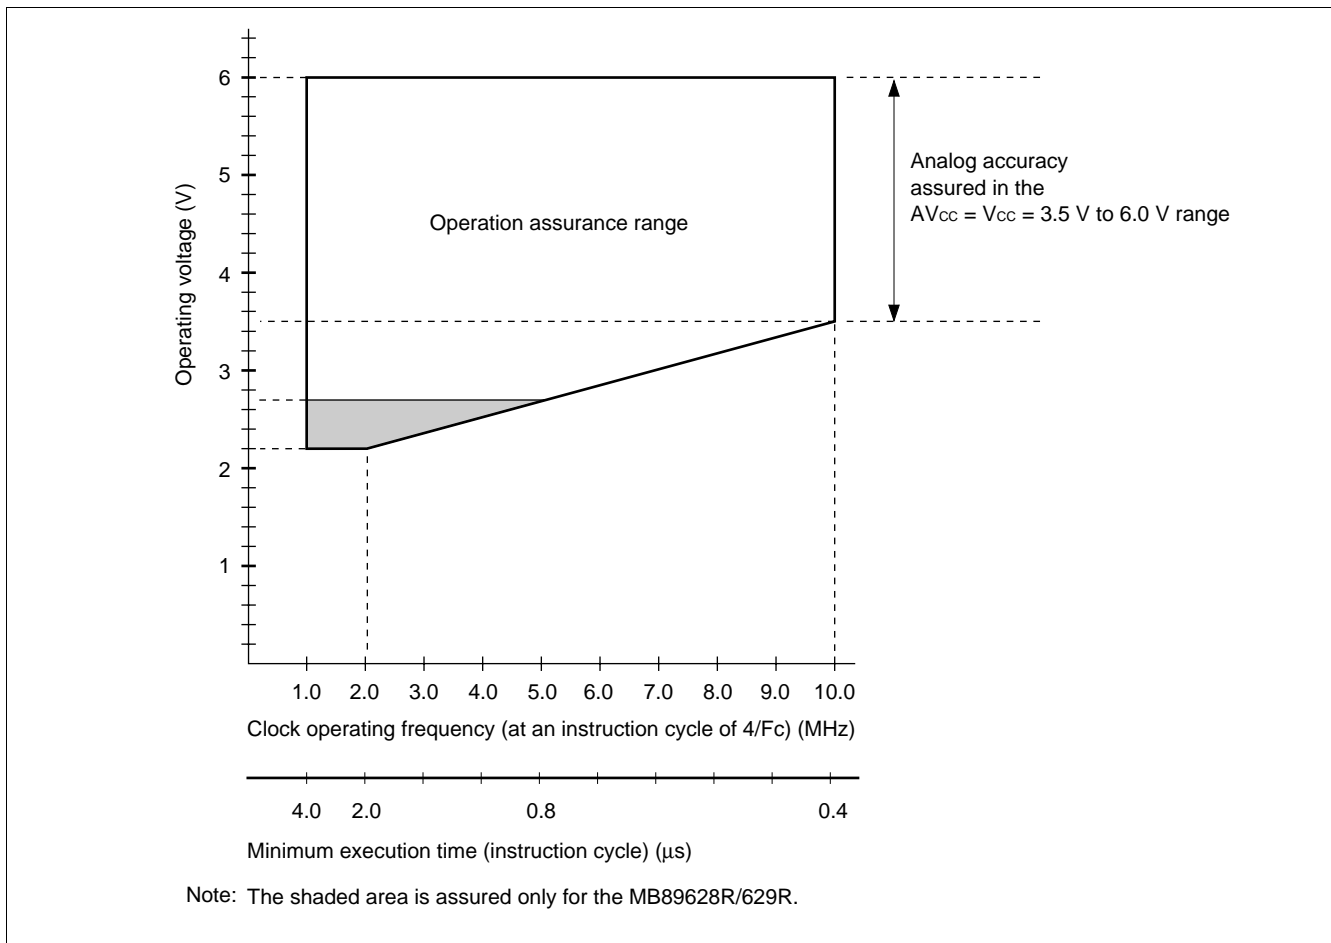

Figure 1 Operating Voltage vs. Clock Operating Frequency
* : These values vary with the operating frequency and analog assurance range. See Figure 1 and "5. A/D Converter Electrical Characteristics."
Figure 1 indicates the operating frequency of the external oscillator at an instruction cycle of 4/F_C.